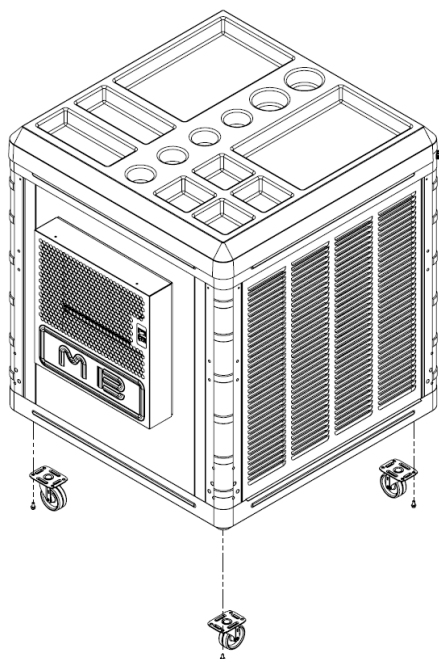

Figure 1
1. Open parts box & remove casters from parts bag. Assemble each caster (Fig.1) per caster plate using supplied 1/4-20 nuts & carriage bolts.